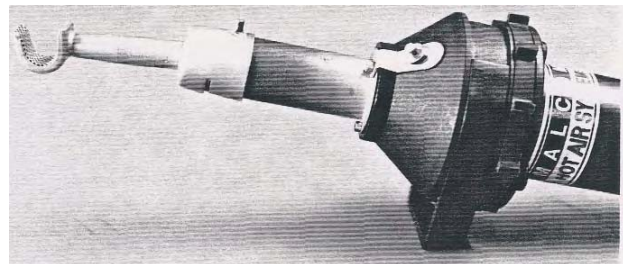

Figure 17. Nozzle Installation
a. It is recommended that before changing nozzles the operator allow the tool to cool down by turning off the heat (Figure 19, Item 1) and let the fan cool the nozzle down, or turn off the power to the tool and use only combination pliers and or insulated gloves to remove the hot nozzle. When you install a nozzle it is recommended that the fan to the tool be turned off. Push the new nozzle onto the tool and turn it to lock into place (Figure 17).